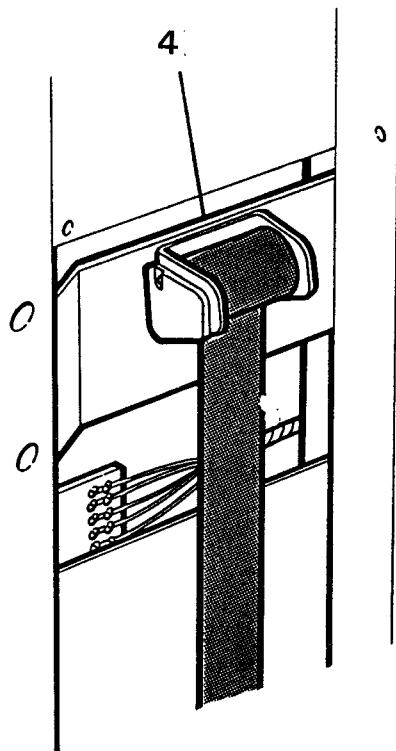

Figure 7
3. From within the luggage compartment, remove the four screws securing the access panel to the partition. See figure 7.